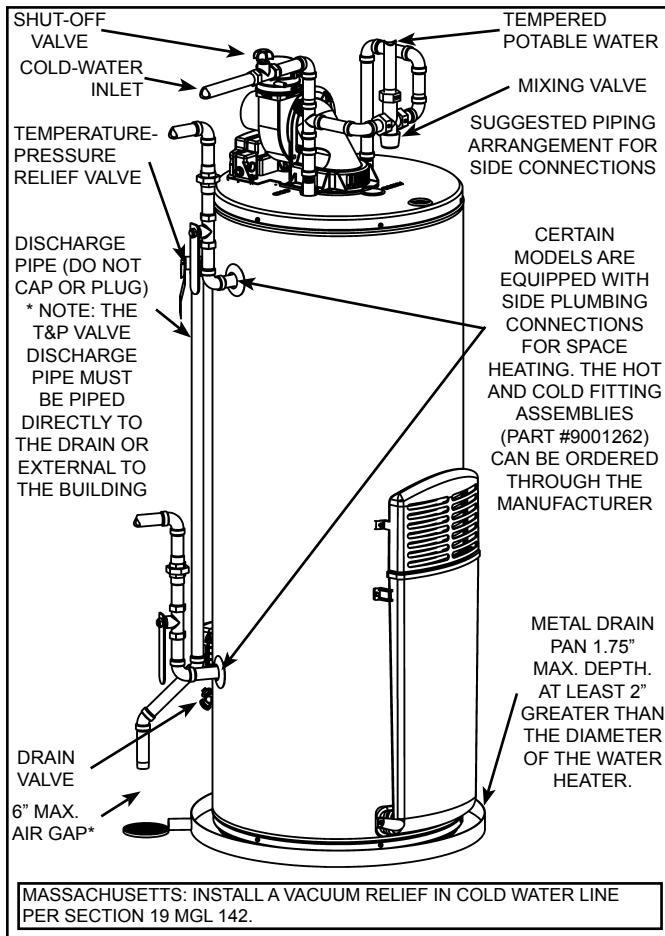
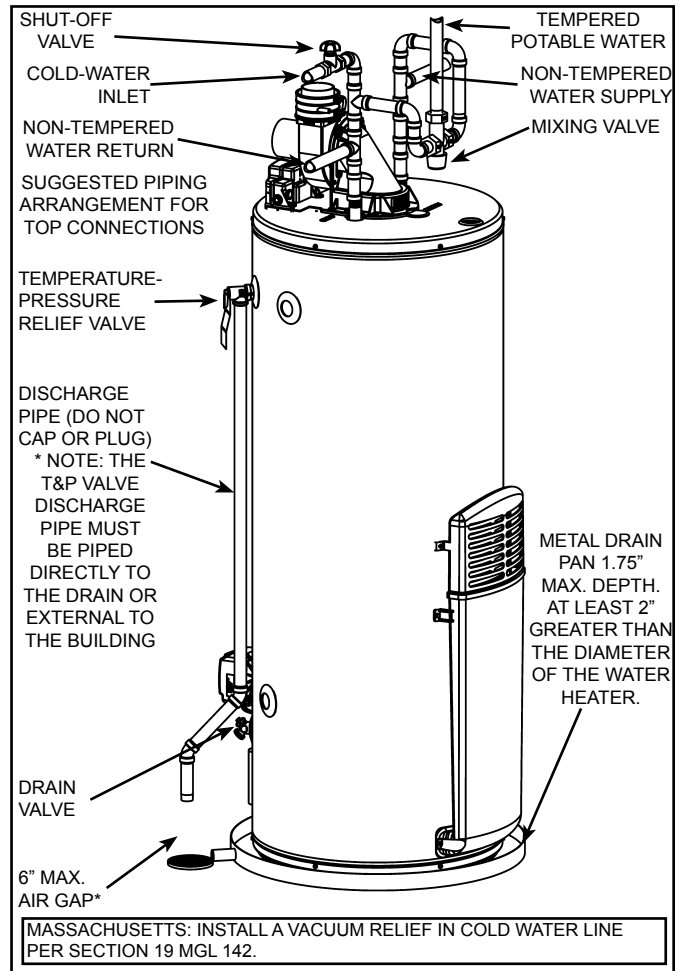

Figure 8.
Figure 9.
Models equipped with Combo Heating capabilities are shipped with the two side plumbing taps **OPEN** (item 18 and item 20 in Figure 1 and see also Figure 8 & Figure 28). If the heater is to be operated without using the side taps, these openings **must be closed** with the two pipe plugs supplied with the heaters.
In addition to using lowest possible temperature setting that satisfies demand of application, a mixing valve should be installed at water heater (see Figure 8 & Figure 9) or at hot-water taps to further reduce system water temperature. Mixing valves are available at plumbing supply stores. Consult a Qualified Installer or Service Agency. Follow mixing valve manufacturer’s instructions for installation of the valves. Before changing the factory setting on the thermostat, read the “Operating The Temperature Control System” section in this manual.